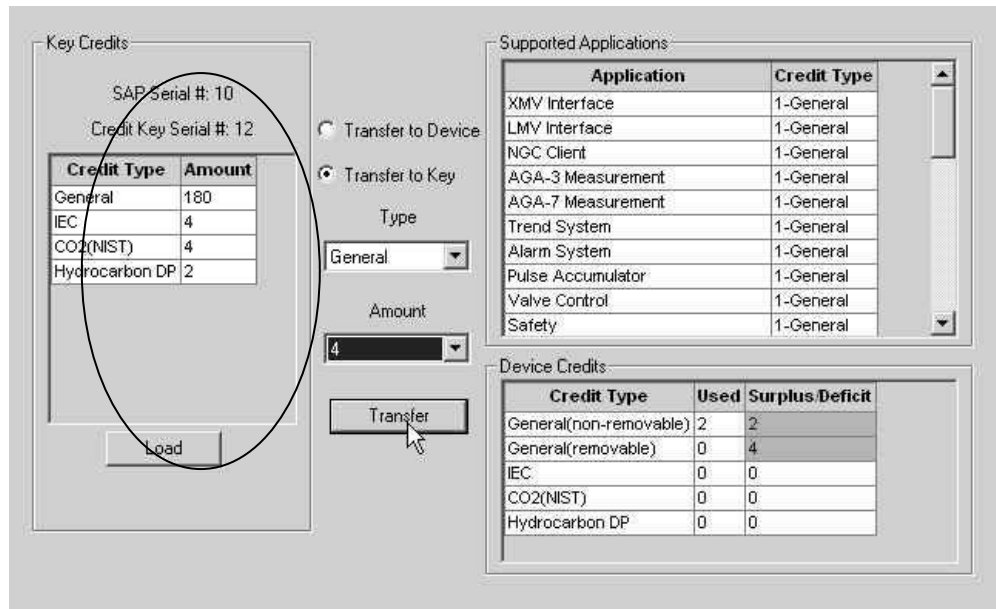

Figure 63: Transfer to credit key application credit selections
4. Select **Transfer to Key**, located in the center of the screen (Figure 63).